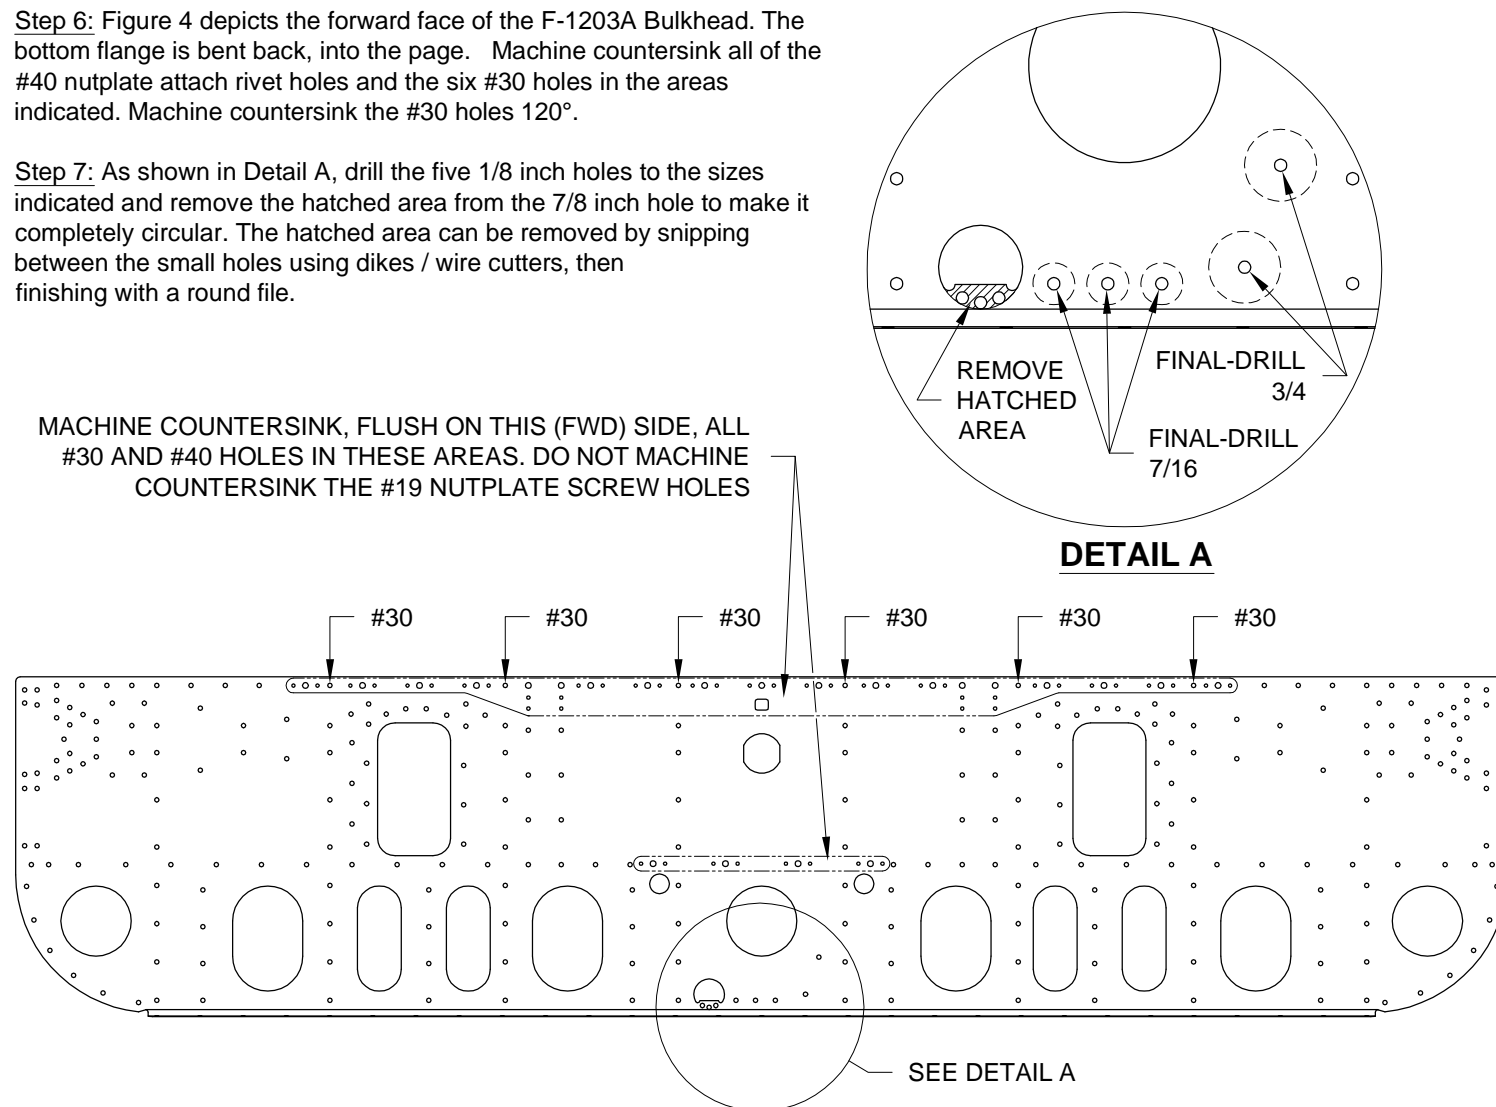

FIGURE 4: F-1203A BULKHEAD
Step 6: Figure 4 depicts the forward face of the F-1203A Bulkhead. The bottom flange is bent back, into the page. Machine countersink all of the #40 nutplate attach rivet holes and the six #30 holes in the areas indicated. Machine countersink the #30 holes 120°.